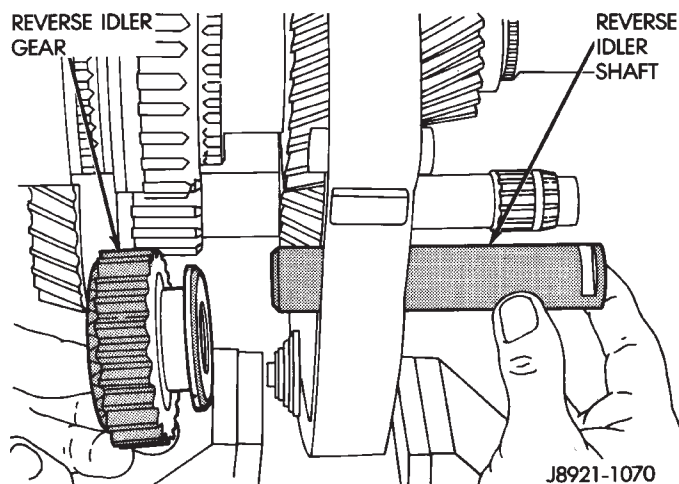

Fig. 40 Removing Reverse Idler Gear And Shaft
- (21) Remove reverse gear and shaft (Fig. 40).